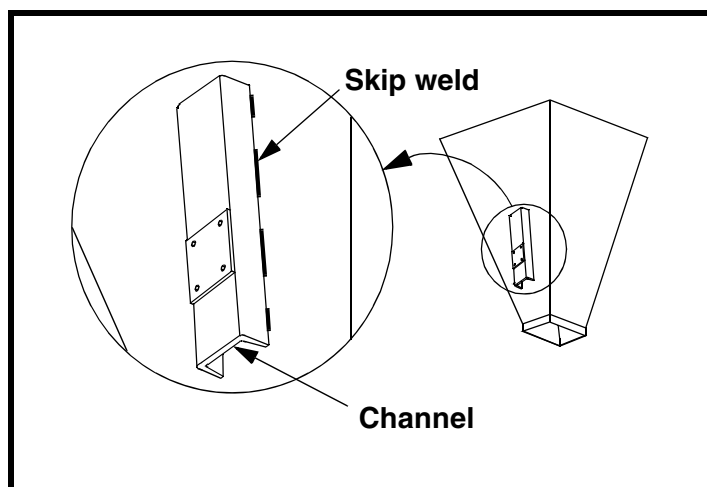

Figure 3. Skip Weld
- c. See Figure 3. Skip-weld beam in place: Weld 3 in. (76 mm), then skip 2 in. (51 mm). Repeat for entire perimeter of beam. Do not weld last 1 in. (25 mm) of either end of beam or any corner.